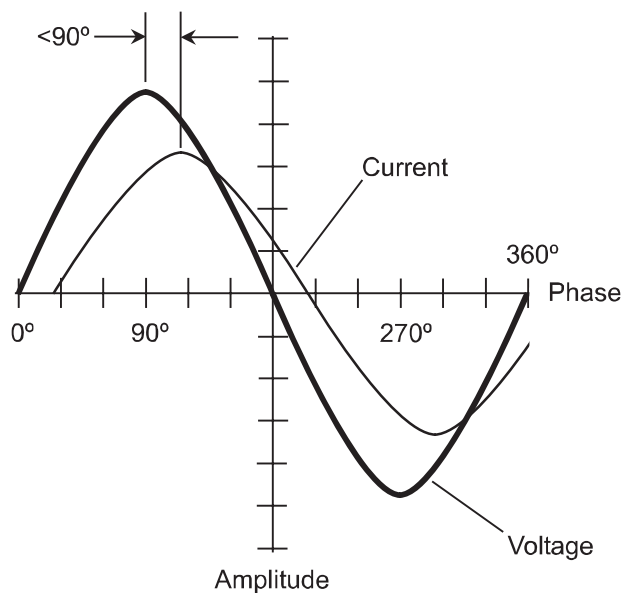

Fig. 3-7. In an *RL* circuit, the current lags the voltage by some phase angle greater than 0° but less than 90° .
When the resistance in a *resistance-inductance (RL) circuit* is significant compared with the reactance, the current lags the voltage by less than 90° (Fig. 3-7). If R is small compared with X_L , the current lag is nearly 90° ; as R gets relatively larger, the lag decreases. When R is many times greater than X_L , the vector lies almost on the R axis, and the *RL phase angle* is only a little more than 0° . When the complex impedance becomes a pure resistance, the current comes into phase with the voltage, and the vector lies exactly along the R axis. (Then we no longer have an *RL* circuit, but simply an *R* circuit!)